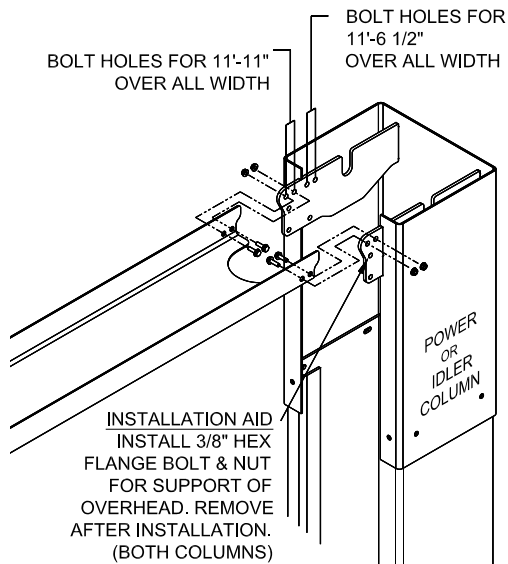

Fig 3 – Overhead Assembly
- 11) Before raising overhead into position install 4 each (2 per column) hex flange bolts and nuts in middle hole of column extension (see **Fig 3 Installation Aid**) for temporary support of overhead. Lift overhead assembly up into position and install with 8 each (4 per column) 3/8-16 x 3/4" lg hex flange bolts and hex flange nuts per side as shown in **Fig 3**.